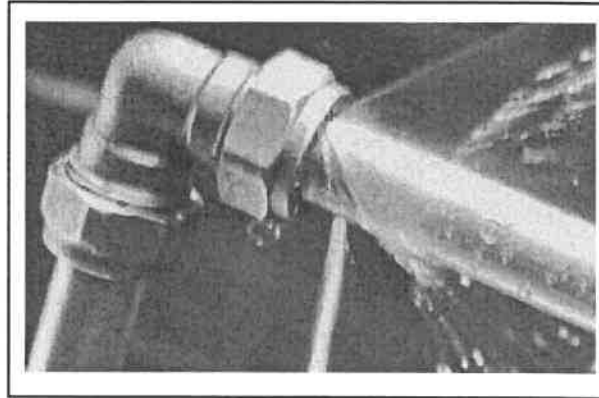

FIGURE 4.4
4.4 FIGURE 4.4 below shows a copper pipe joint that has a leak because the compression ring/ferrule is damaged. (4)